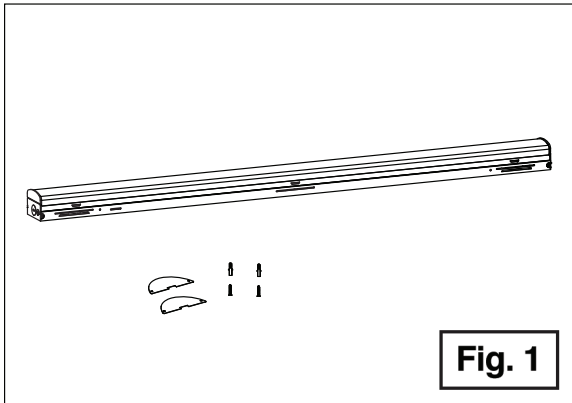

Fig. 1
1. Take out the light fixture and accessories from the box. **(Fig. 1)**
1. Install the Pendant box to the Pipe end and make wiring connection. **(Fig. 1)**